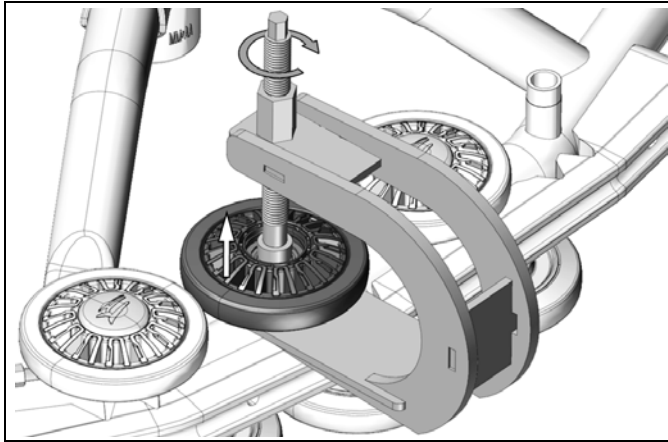

Figure 30
- Place the extractor under the wheel as shown on Figure 30. Then turn the threaded rod to remove the wheel.